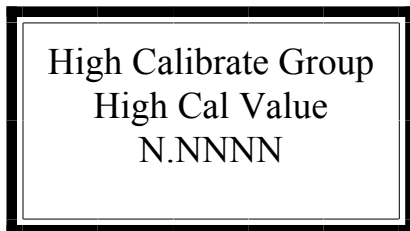

Figure 10b: Entering the High Calibration Value.
3) Select the High Calibrate Value Menu Variable, Figure 10b, and set the value to the desired level.